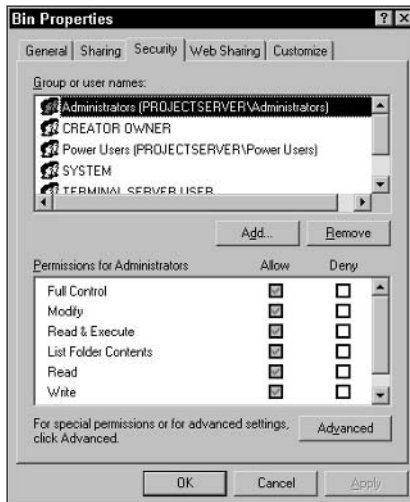

Figure 19-55: Use this box to add permissions to the repository.
3. Right-click the Bin folder, and click Properties from the shortcut menu that appears to open the Bin Properties dialog box (see Figure 19-55).